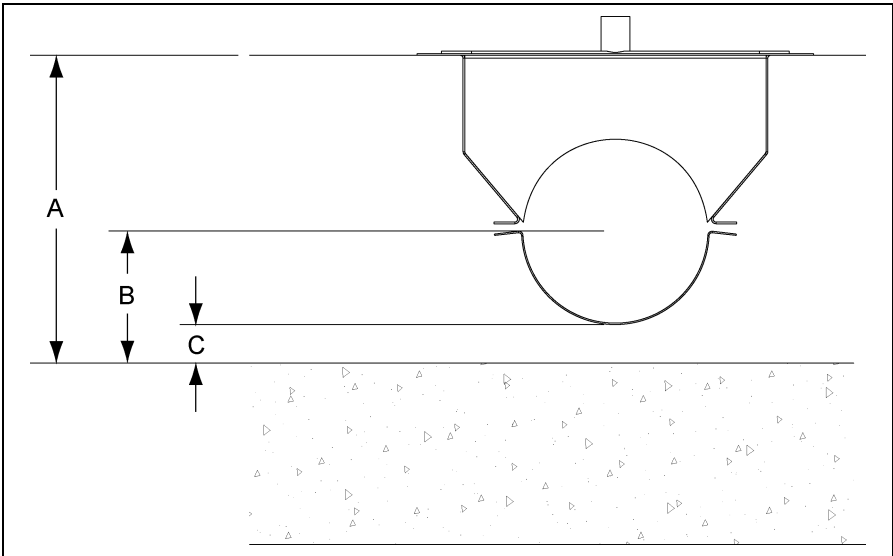

Figure 4J Centre Well Positions
1. Mark and cut openings through the bin walls to allow the lower tubes to pass through. Use Figure 4J on Page 28 dimensions.